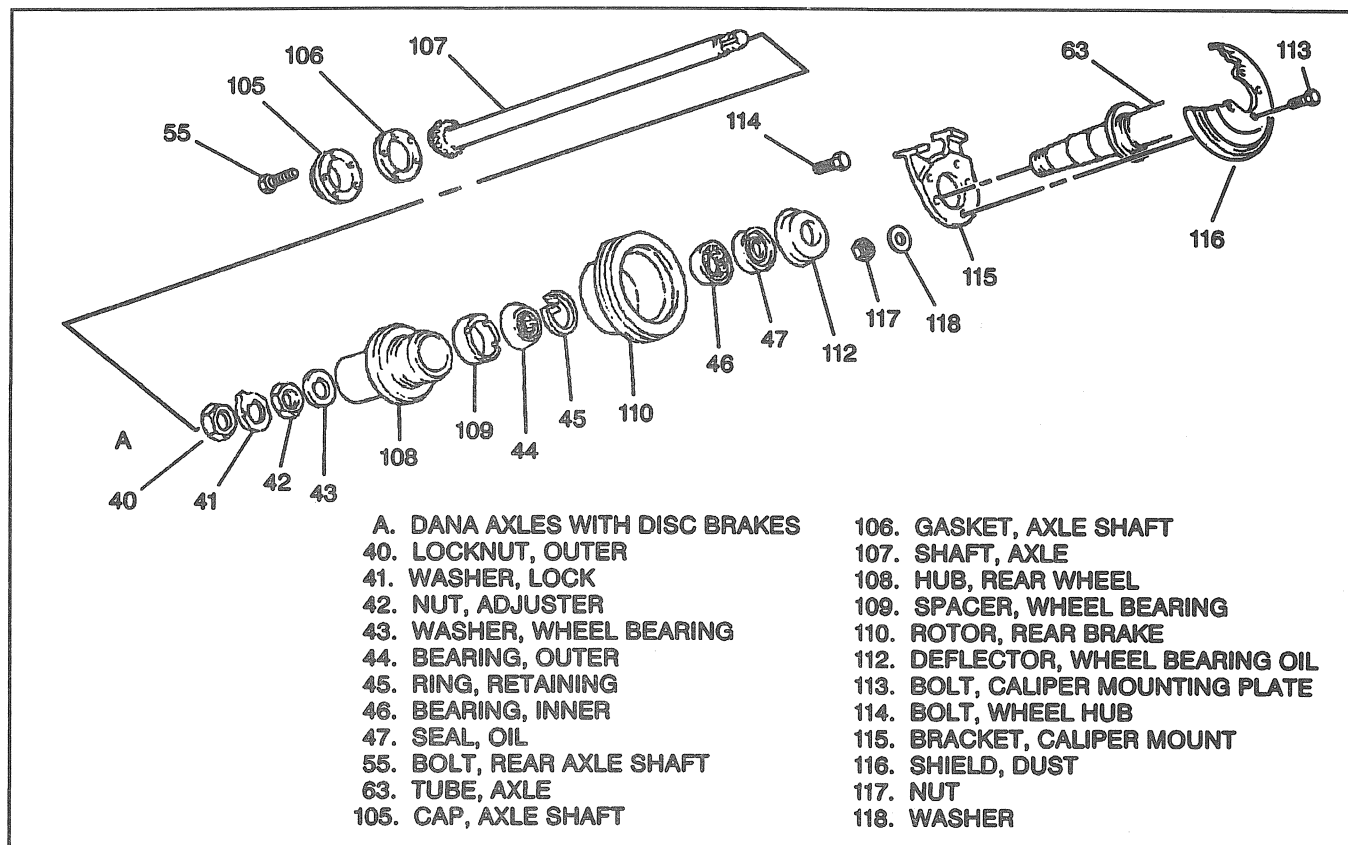

Figure 27—Full-Floating Axle, Wheel End Components
1. Bolts. If the vehicle is equipped with rear disc brakes the axle cap must also be removed (Figure 27).
Remove or Disconnect (Figures 27 and 28)
Install or Connect (Figures 27 and 28)
Remove or Disconnect (Figures 27 and 29)
Install or Connect (Figures 27, 30 through 32)